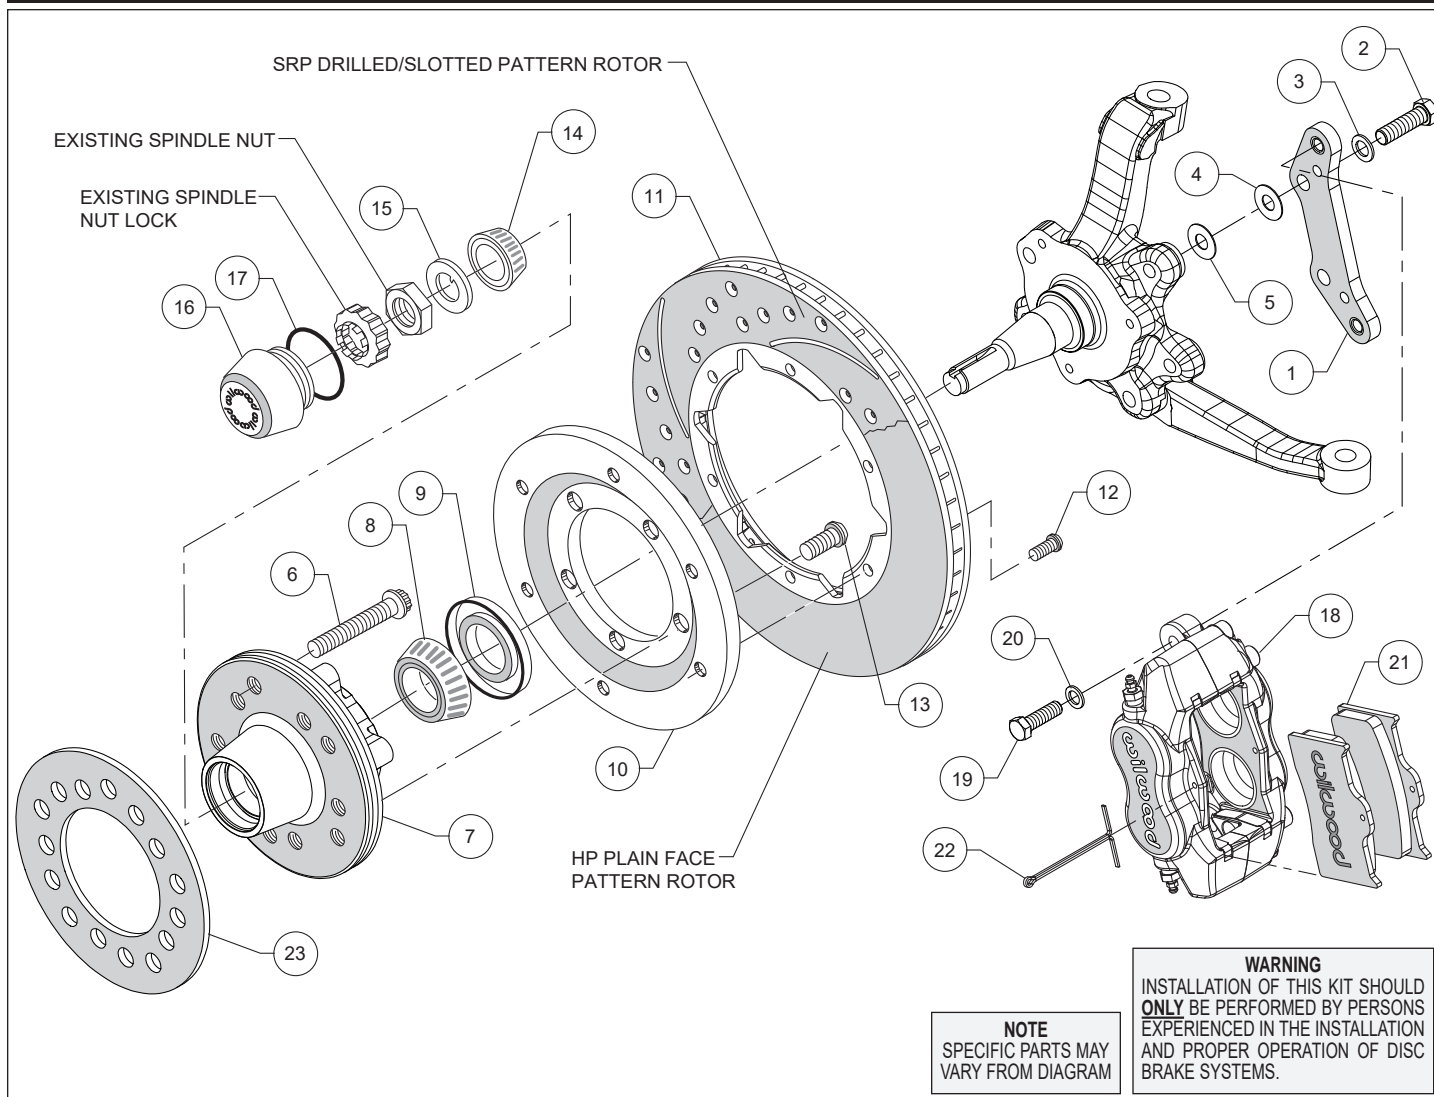

Figure 1. Typical Installation Configuration
Assembly Instructions (numbers in parenthesis refer to the parts list, on the preceding page and Figure 1): **CAUTION:** All mounting bolts must fully engage clinch nuts. Be sure to check that all bolts are either flush or protruding through flanged side of clinch nut after shimming.
- NOTE:** Please reference the caution statement at the beginning of the assembly instructions. Mount the caliper (18) onto the caliper mounting bracket (1) using bolts (19) and washers (20), as shown in Figure 1 and Photo 1. Temporarily tighten the mounting bolts. Ensure that the flanged heads of the clinch nuts in the bracket are facing away from the caliper, Figure 1. **NOTE:** The end of each bolt must be flush with or slightly protruding from the head of the clinch nut. Remove bolts one at a time, apply red *Loctite*® 271 to threads and torque to 40 ft-lbs. The bracket/caliper assembly will be installed on the spindle later.
- Orient the rotor (11) and the rotor adapter (10) as shown in Figure 1 and Photo 4. Attach the rotor to the adapter using bolts (12). Using an alternating sequence, apply red *Loctite*® 271 to the threads, and torque to 25 ft-lb.
- Mount the adapter/rotor assembly (10 and 11) to the hub (7) using bolts (13), as shown in Figure 1 and Photo 5. Using an alternating sequence, apply red *Loctite*® 271 to the threads, and torque to 45 ft-lb.
- The caliper/bracket assembly (18 and 1) should initially be installed with clean, dry threads on the mounting bolts. Orient the bracket as shown in Figure 1 and install onto the inboard side of the spindle using bolts (2) and washers (3). Initially place one .030 thick shim (4) on each bolt between the bracket and spindle, Photo 8. Temporarily tighten the mounting bolts and view the rotor (11) through the top opening of the caliper. The rotor should be centered in the caliper, Photo 9. If not, adjust by adding or subtracting shims (4 and/or 5) between the bracket and the spindle. Always use the same amount of shims on each of the two mounting bolts. Once the caliper alignment is correct, remove the bracket mounting bolts (2) one at a time, apply red *Loctite*® 271 to bolt threads, and torque to 60 ft-lb.